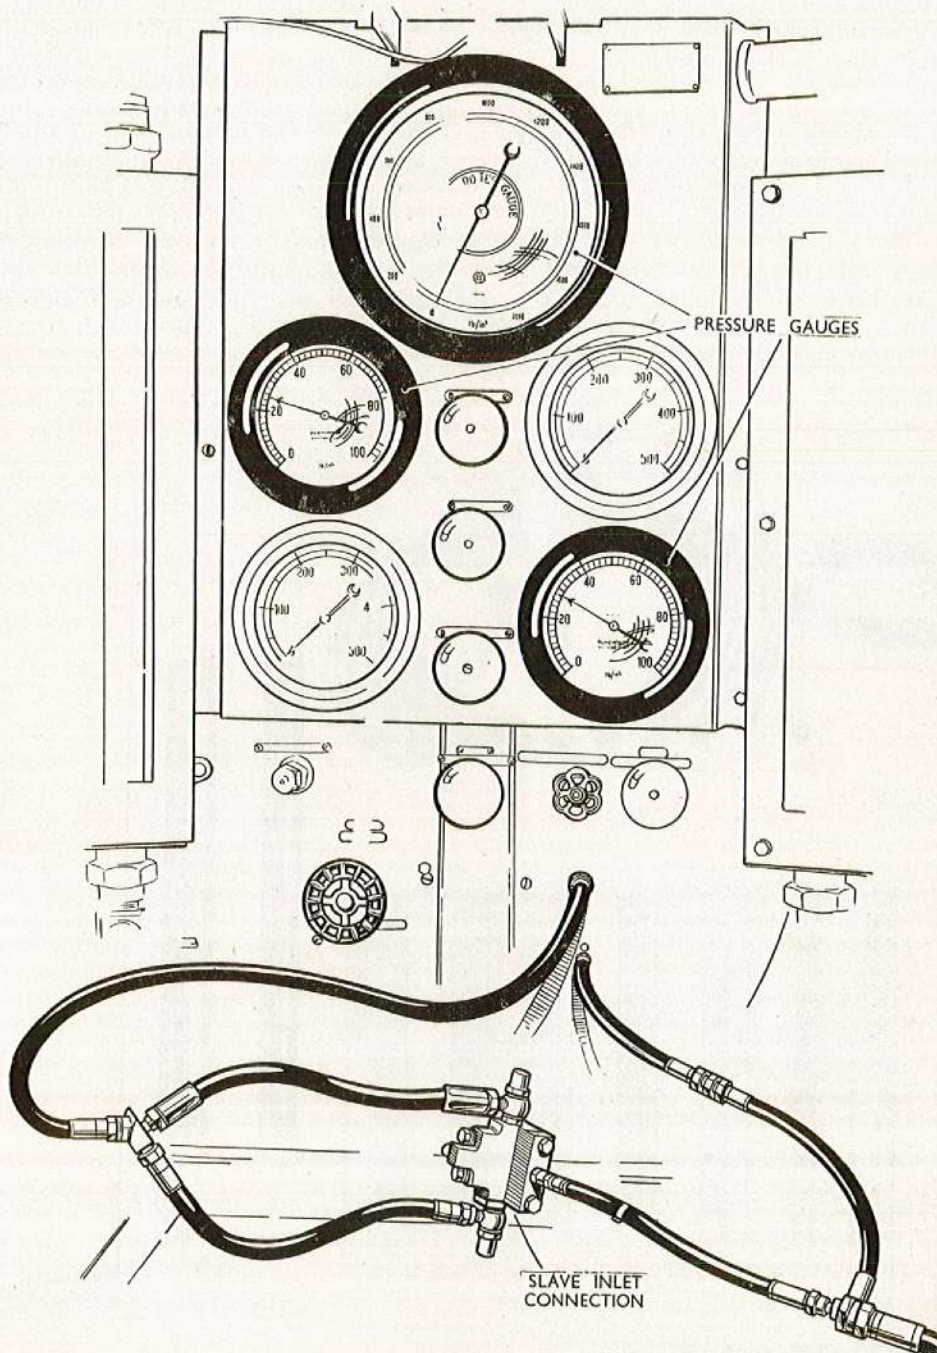

Fig. 6. Testing the dump valve
58. Connect the valve to the rig as shown in fig. 6.